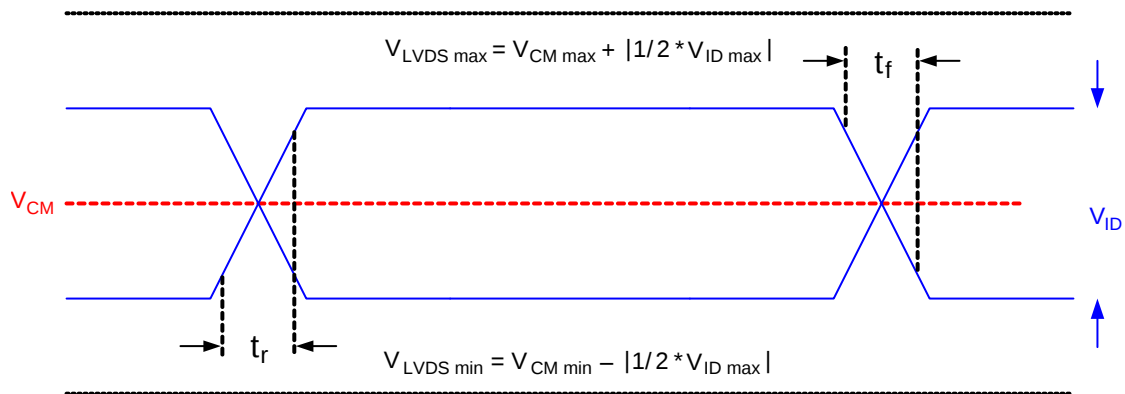

Figure 5. LVDS Waveform Requirements
(11) See Figure 5 LVDS Waveform Requirements.
(12) Simultaneous exposure of the DMD to the maximum Recommended Operating Conditions for temperature and UV illumination will reduce device lifetime.
(2) See Figure 5 for Timing Requirements for LVDS.
(3) Channel A (Bus A) includes the following LVDS pairs: DCLK_AN and DCLK_AP, SCTRL_AN and SCTRL_AP, D_AN(15:0) and D_AP(15:0).
(4) Channel B (Bus B) includes the following LVDS pairs: DCLK_BN and DCLK_BP, SCTRL_BN and SCTRL_BP, D_BN(15:0) and D_BP(15:0).
(5) Channel C (Bus C) includes the following LVDS pairs: DCLK_CN and DCLK_CP, SCTRL_CN and SCTRL_CP, D_CN(15:0) and D_CP(15:0).
(6) Channel D (Bus D) includes the following LVDS pairs: DCLK_DN and DCLK_DP, SCTRL_DN and SCTRL_DP, D_DN(15:0) and D_DP(15:0).